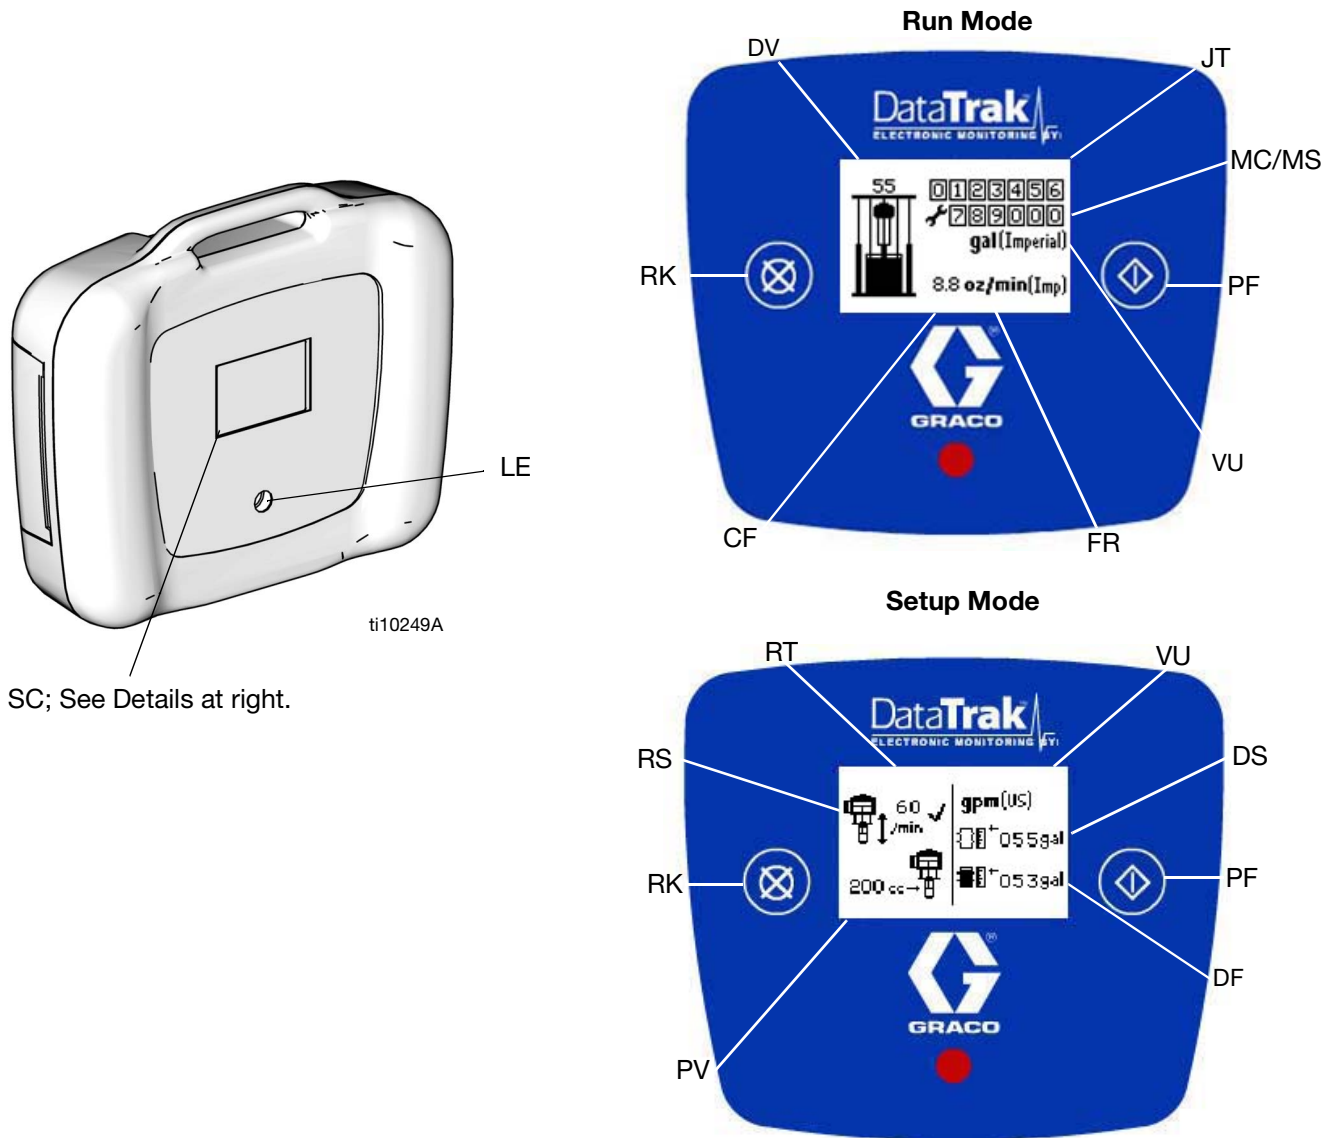
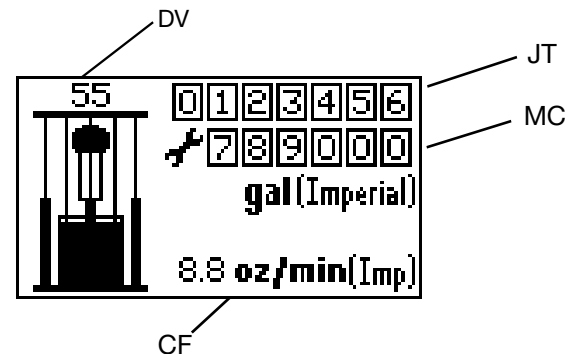

FIG. 26: Remote DataTrak Controls and Indicators
FIG. 29: Run Mode Screen
4. The Splash Screen (FIG. 28) will flash on while the progress bar fills from left to right. It will then go directly to Run Mode (FIG. 29).
See FIG. 26 and FIG. 29.
2. While in Prime Mode, the job total counter (JT) is blank and will not count. However, the maintenance counter (MC) will continue to decrement.
3. When a new drum is installed, press and hold  while in Prime Mode to reset the drum volume remaining (DV) to the drum fill volume (DF).
4. To exit Prime Mode, press . The Prime symbol will disappear and the LED will stop flashing; the screen will return to Run Mode (FIG. 29).
NOTE: If a key is not pressed within one minute of entering a setup screen, the system will return to Run Mode (FIG. 29).
- a. Press and release  to enter Diagnostic Mode from Run Mode (FIG. 29).